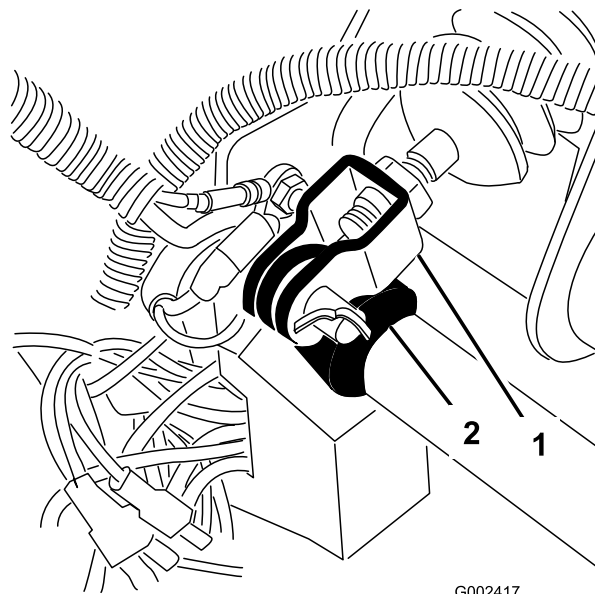

Figure 54
1. Remove the cotter pin and clevis pin securing the master cylinder yoke to the brake-pedal pivot (Figure 54).